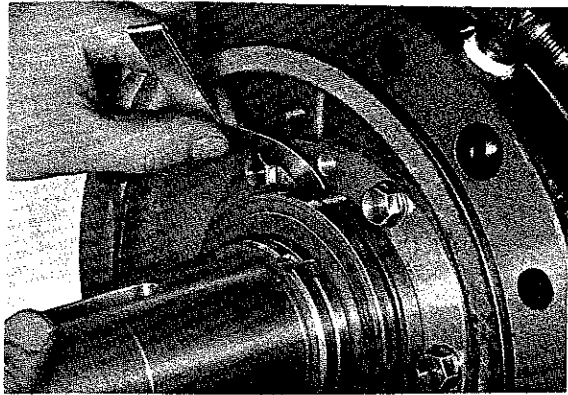

Fig. 84 Measuring thrust gap
- c) After pulling out the crankshaft by rotating it by hand, measure the clearance between the seal collar and the thrust bearing with a thickness gauge at the top and bottom and also right and left positions. (Ref. Fig. 84 & Supplement 8.3.)